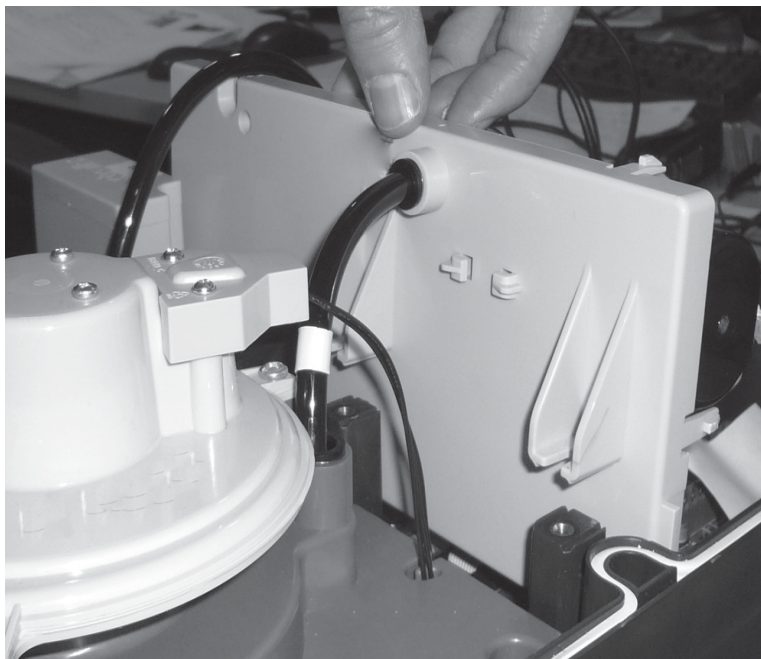

Figure 7-14: Insert Chamber
4. Insert chamber in slots but hold the chamber 20mm from bottom (Figure 7-14).